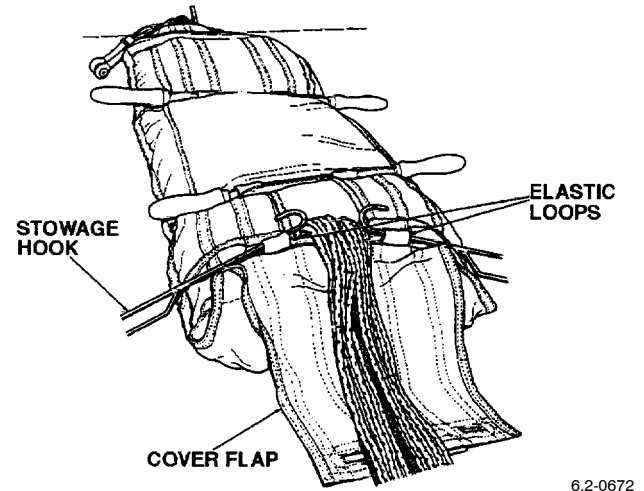

Figure 22. Bottom Flap Lower Elastic Loops Secured
k. Remove the stowage hooks. Route the suspension lines centrally on the deployment sleeve bottom flap between the two pairs of slots. (QA)
l. Fold the mouth opening cover outboard edges inboard and the top down to cover the canopy skirt. (QA)
m. Fold the bottom flap up and over the sleeve and pass the two elastic loops on the sleeve upper surface thru the corresponding slots in the flap. Secure the loops with stowage hooks inserted from outboard to inboard (Figure 22). (QA)